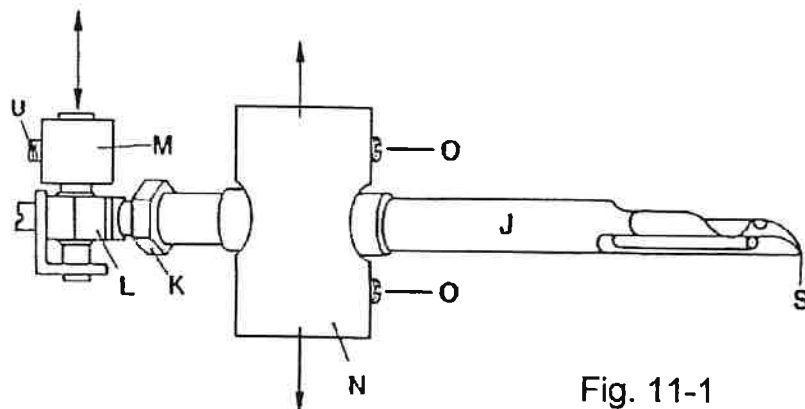
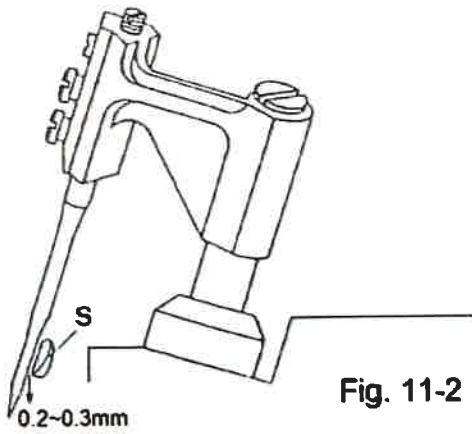

Fig. 11-1
Fig. 11-2
Loosen screw (K, Fig. 11-1) to remove old lower looper (J) from guide (N). Insert new lower looper (J) into guide (N) and tighten it on holder (L). Be sure that lower looper tip (S) is parallelled to needle and has a clearance in 0.2mm to 0.3mm as illustration (Fig. 11-2).
Loosen two screws (O, Fig. 11-1) and then move guide (N) in the direction within 0.1mm as illustration .
Loosen screw (U, Fig. 11-1) to adjust lever (M) by moving holder (L) in the direction as illustration.